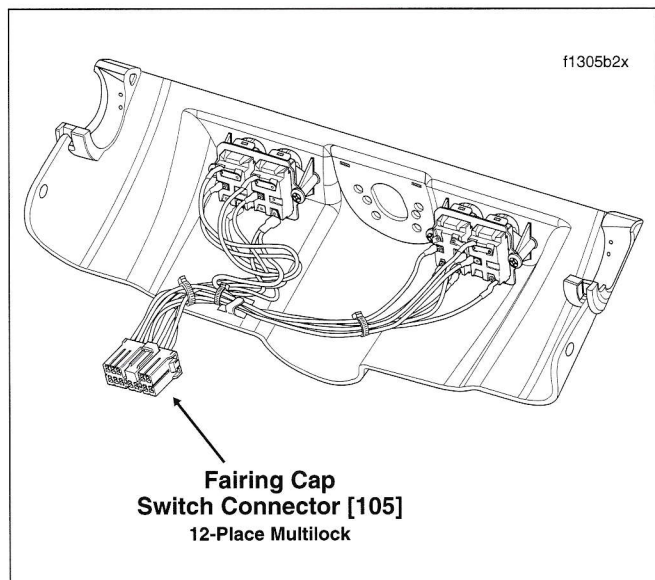

Figure 8-64. Fairing Cap Assembly (FLHT/C/U)
7. Remove the fairing cap from the motorcycle. See Figure 8-64.